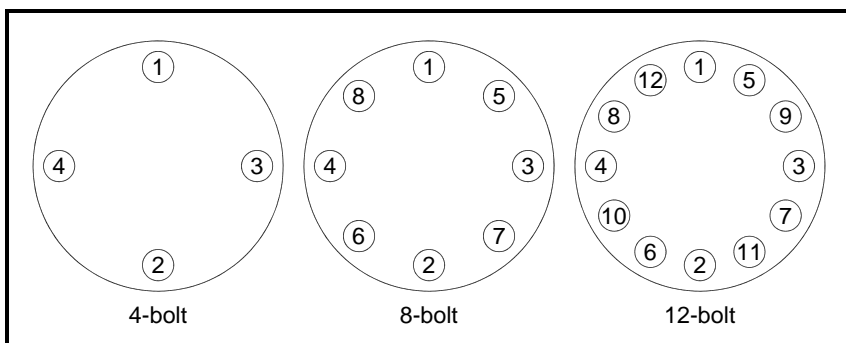

Figure 5: Flange Bolt Torquing Sequence
4. Place the remaining studs between the pipe flanges. Tighten the nuts in the sequence shown in Figure 5 on page 11. Check for leaks after tightening the flange bolts
3. Install bolts in both process connections. Tighten the nuts in the sequence shown in Figure 5 on page 11. Check for leaks after tightening the flange bolts.